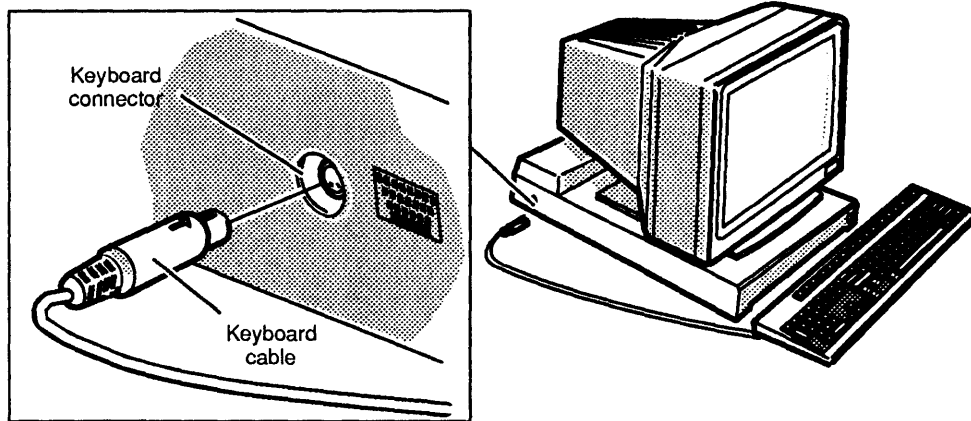

Figure 4-3 Disconnecting the Keyboard Cable from the Keyboard Connector
6. Disconnect the keyboard cable from the left side of the computer unit as shown in Figure 4-3 .